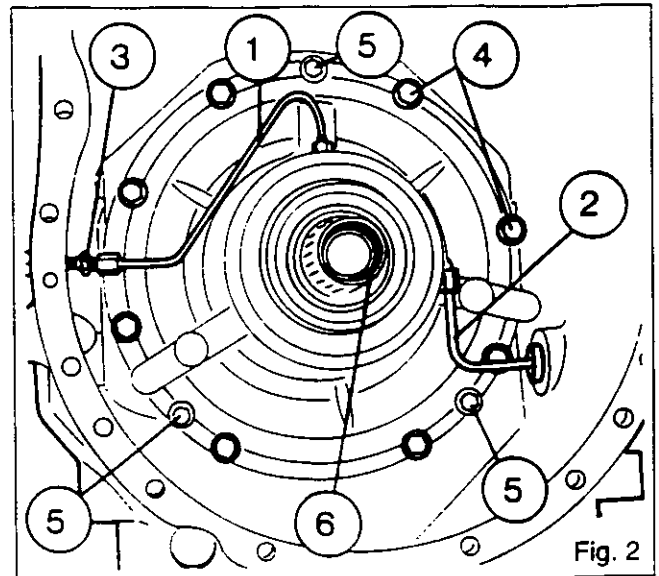

Fig. 2
4. Remove bleed pipe (1), supply pipe (2) and connector (3) (plug the openings into the passages) (Fig.2).
6. Unscrew the 8 x 10 mm bolts (4) (Fig.2).
**N.B.: Do not unscrew the three bolts (5) (Fig.2)**
30. Refit pipes (1) and (2) and connector (3) (Fig. 2).